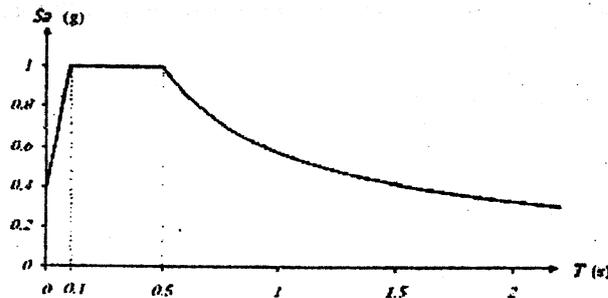

Fig. 3
3. A 2-storey shear frame is shown in figure below with the indicated lumped masses and storey stiffnesses. The acceleration response spectrum given in figure 3 is applicable to the frame. Determine, for the frame: [20]